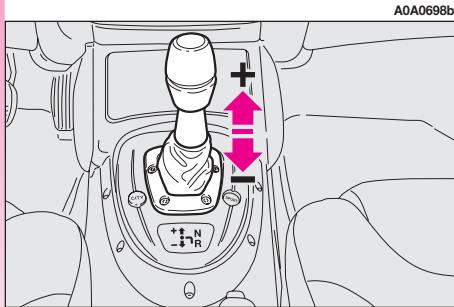

fig. 121
– to shift upwards (+) (**fig. 121**) push the lever “forwards” (if the car is in first gear it shifts to second, if in second it shifts to third and so on up to fifth). If the system is in neutral (**N**) or reverse (**R**) moving the
– to shift downwards (–) (**fig. 121**) push the lever backwards (if the car is in fifth gear it shifts to fourth, if in fourth it shifts to third and so on down to first gear).